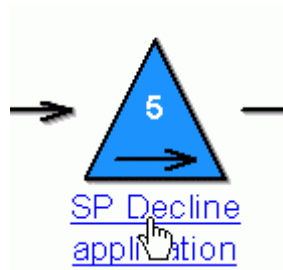

Figure 224: Hyperlink display (Example "subprocess")
- **click** on the **visualised object reference** (e.g. name of the sub model or referenced object), which is displayed as a hyperlink (see fig. 224),
Hint: The hyperlink function (see fig. 224) is only possible for non selected objects.